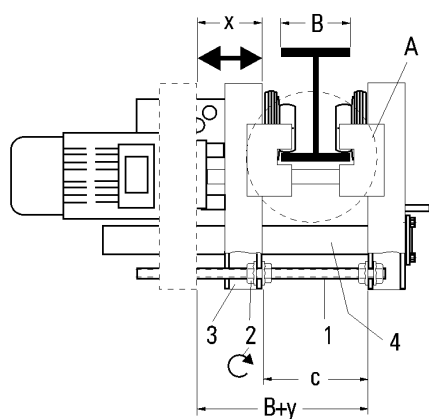

Figure 3-6 Trolley Hoist Clearances 2 Ton – 10 Ton
- 2) Before attempting to install the trolley hoist, verify beam width and the “c” dimension (see Figure 3-6). See Table 3-1 for dimensions respective values. If adjustment is not necessary, move onto section Section 3.4.1 (step 8). If adjustment is necessary move onto step 3, below.
- a. Working on the trolley motor side of the hoist, (the side closest to the large rectangular counter weights), loosen the nuts (2) on the two threaded shafts (1) of the trolley hoist. **DO NOT** loosen the nuts closest to the hoist. **NEVER** move the hoist side of the trolley. (See Figure 3-6 and Figure 3-11)
- b. With the nuts (2) loosened enough to allow the trolley frame to move, slide the trolley motor side of the hoist outward or inward to meet the desired flange width. Tighten nuts (2) with a torque wrench, to 155 ft lbs (210 Nm). (See Figure 3-6 and Figure 3-11.)
- b. Before attempting to install the trolley hoist, verify beam width and the “c” dimension (see Figure 3-6). See Table 3-1 for dimensions respective values. Adjust flange width if necessary. (See Section 3.4.1 Step 6)